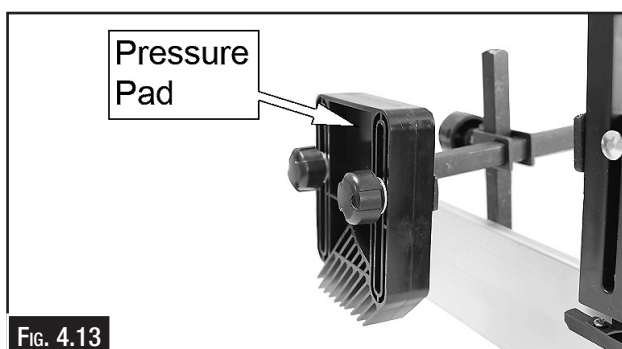

FIG. 4.13
6. Fit the pressure pads to the square mounting plates using 4 carriage bolts, 4 washers and 4 plastic cap nuts. (Fig. 4.13)